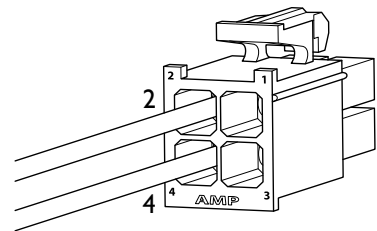

FIGURE 3
7. Install the supplied 4-Pin Connector to the pin side of the light cable (**Figure 3**):